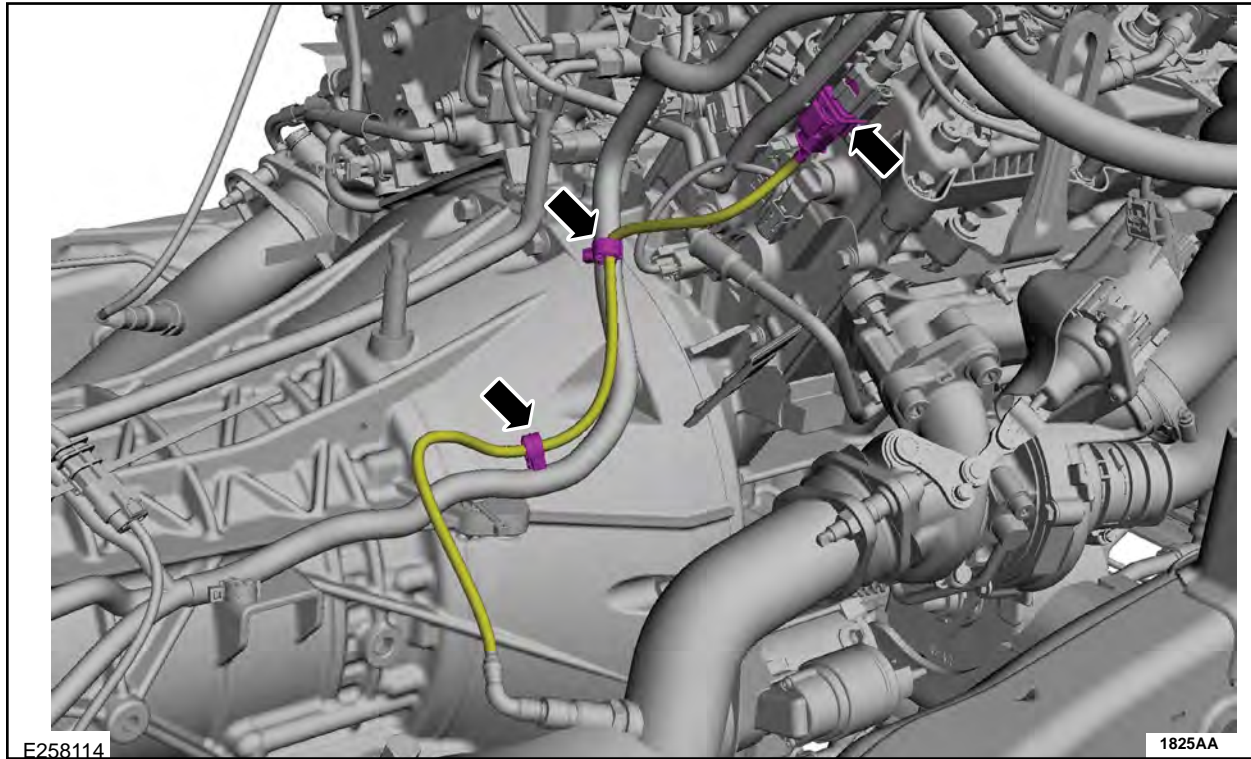

FIGURE 30
47. Disconnect the HO2S electrical connector. See Figure 30.
52. Connect both RH HO2S electrical connectors. See Figures 30 and 31.